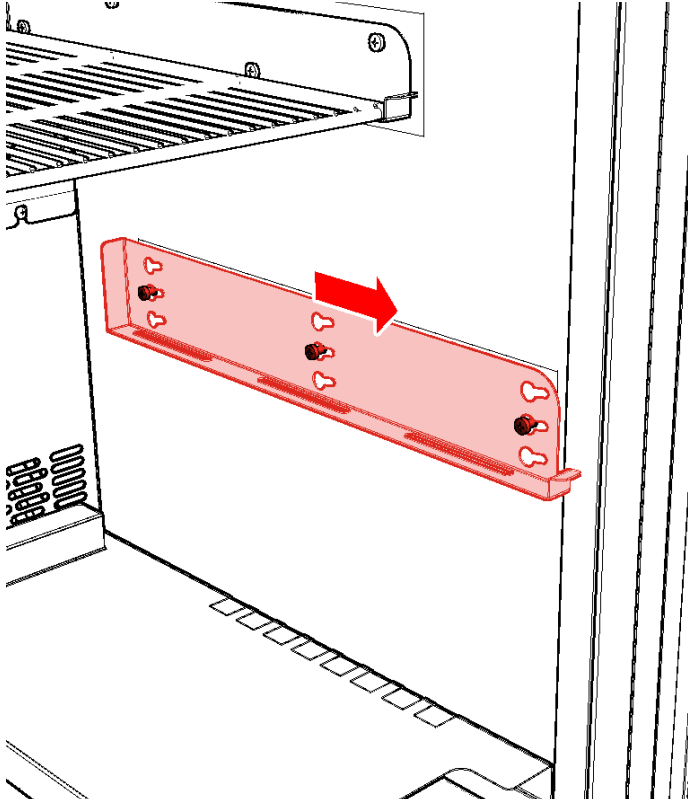
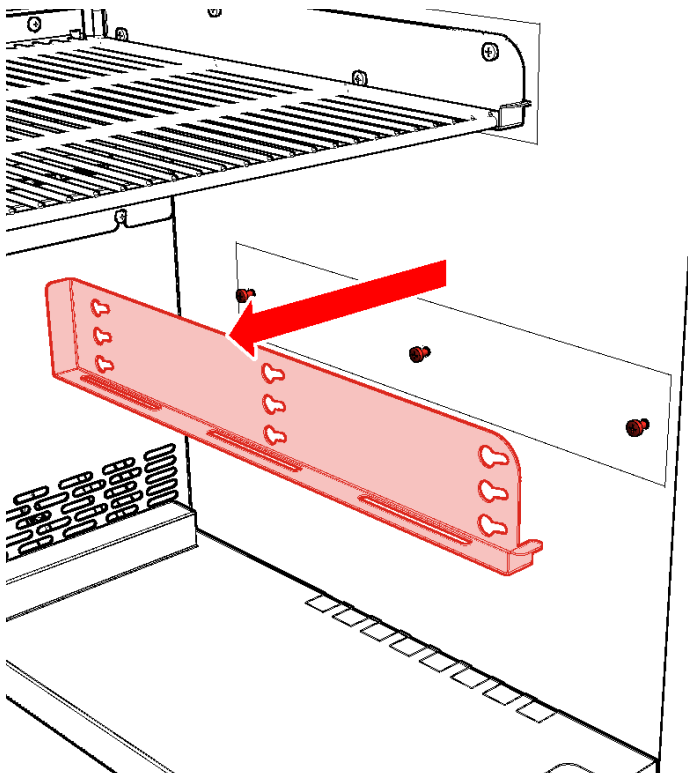

Fig. 24
Fig. 25
2. Loosen three (3) screws fastening each middle shelf rail to interior freezer wall. Slide rail forward (Fig. 24) and then away from wall to release from screws (Fig. 25).